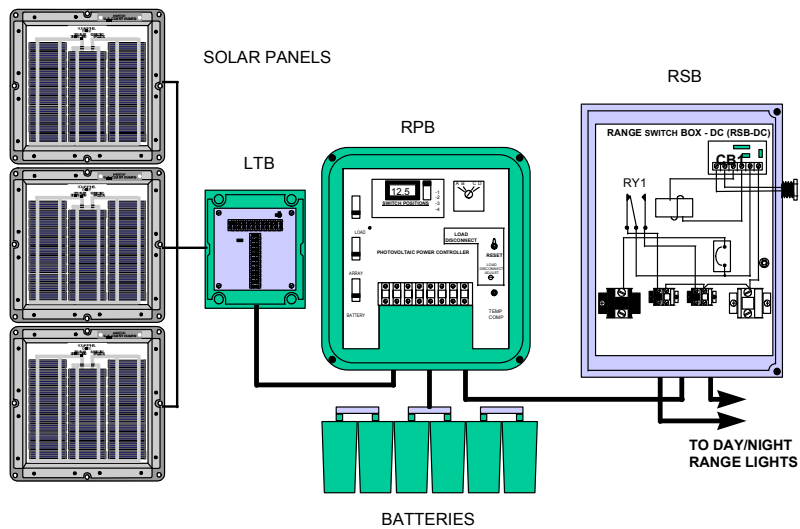

Figure 1-2
2. Day/Night Ranges. Day/night ranges generally use more power than a typical minor aid. Multiple solar panels are terminated into a Local Terminal Box (LTB). Overcharge protection, disconnects and low voltage cutoff are provided by the Range Power Box (RPB). Batteries are multiple 2-volt cells wired in series (Exide EJ/EI/FHGS, Absolyte II, etc.). The Range Switch Box (RSB) controls which light (day or night) operates. With the exception of the day/night lanterns, the power and control system is shown in Figure 1-2.